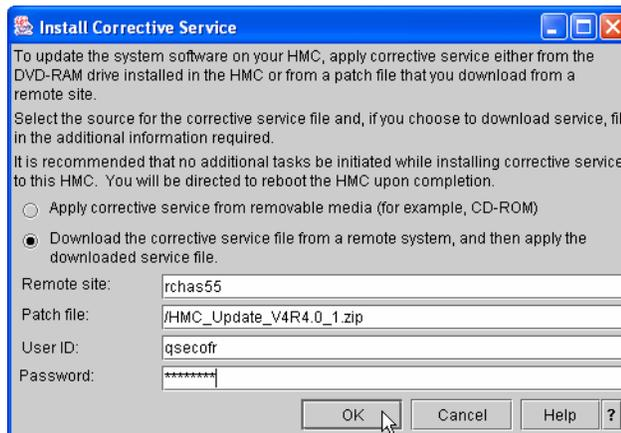

Figure 14-9 Install Corrective Service panel
4. The Install Corrective Service panel appears (Figure 14-9). You need to select the second radio button (Download the corrective service file from a remote system) and fill in the supplied fields.
In our example we enter the information (also shown in Figure 14-9):